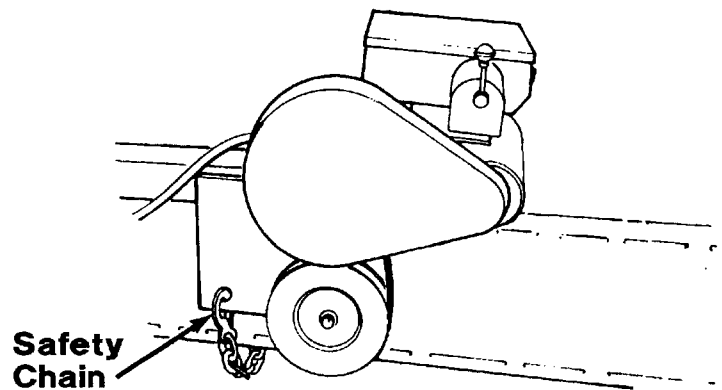

FIG 3-9
4. Hook the carriage safety chain on the bracket shown in Figure 3-9. **Note:** Manual units have a U-shaped bracket to hook the safety chain to.